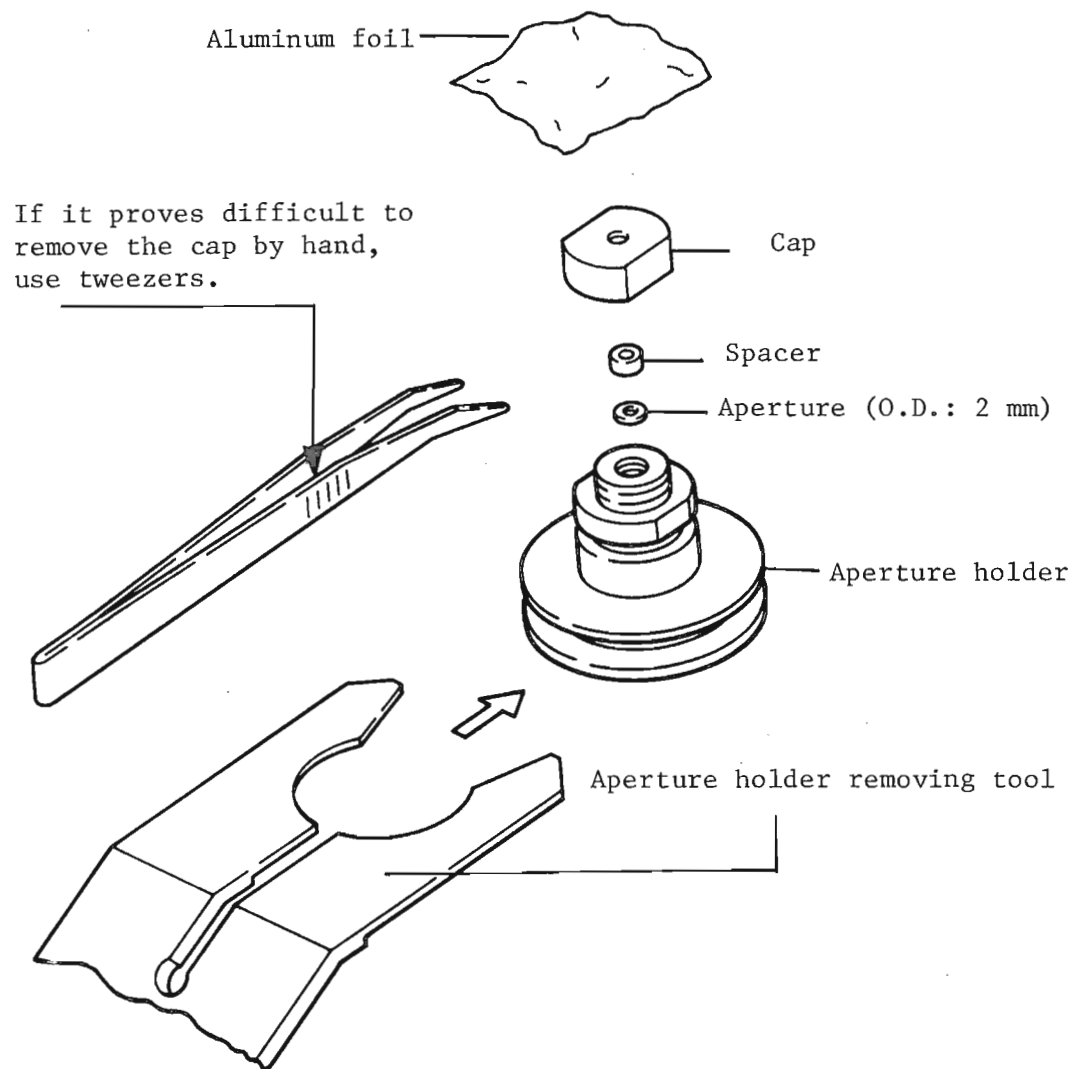

Fig. 5.8 Exploded view of the objective lens aperture assembly and means for removing it
4. Cover the aperture holder cap with aluminum foil and remove the cap by turning it counterclockwise. Then remove the aperture and spacer (Fig. 5.8).
Notes: 1. If it proves difficult to remove the cap by hand, use tweezers (see Fig. 5.8).